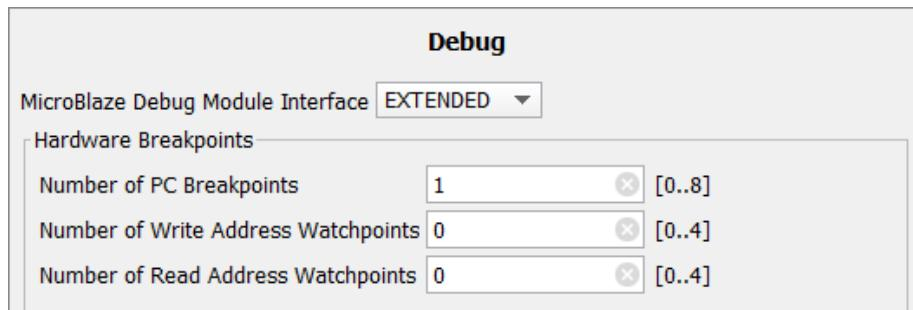

*Figure 4-16: Enable Discrete Ports Option*
**IMPORTANT:** The `DBG_STOP` and `MB_Halted` pins are hidden. To see those pins, you must enable the **Enable Discrete Ports** option on the Welcome page of the MicroBlaze Configuration dialog box, as shown in Figure 4-16, page 101.